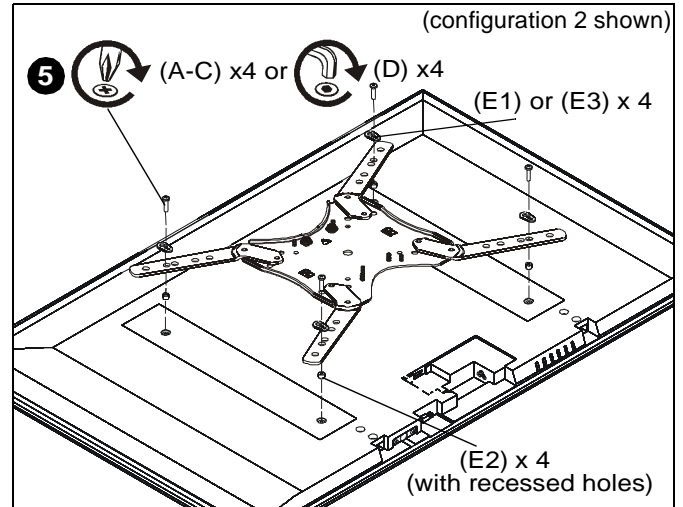
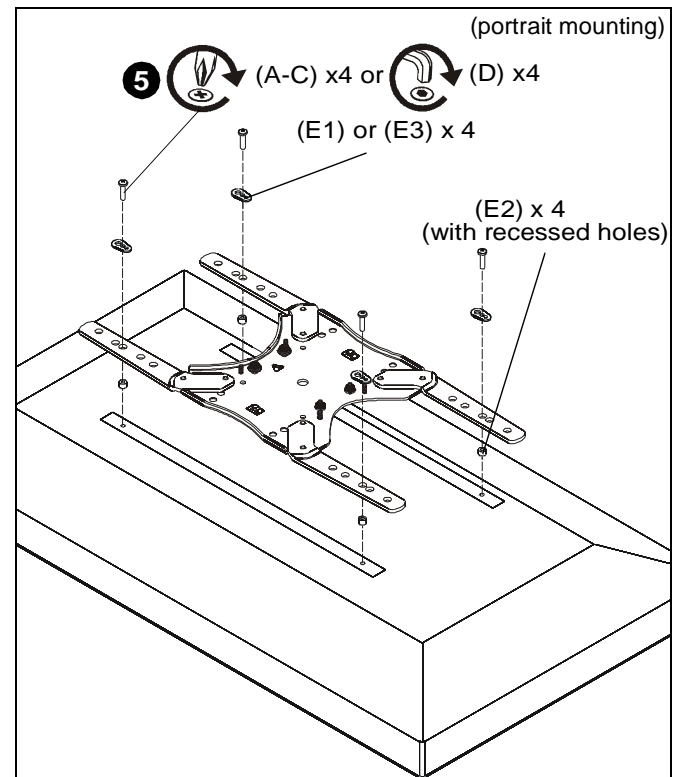

Figure 8
Figure 9
2. Select screw *diameter* by examining hardware (A-D) (4mm, 5mm, 6mm or 8mm) and comparing with mounting holes on display. (See Figure 8)
3. Select spacers: (See Figure 8)
4. Select screw *length*: (See Figure 8)
5. Use selected screws and spacers to connect interface brackets to back of display. (See Figure 8) or (See Figure 9) for portrait mounting